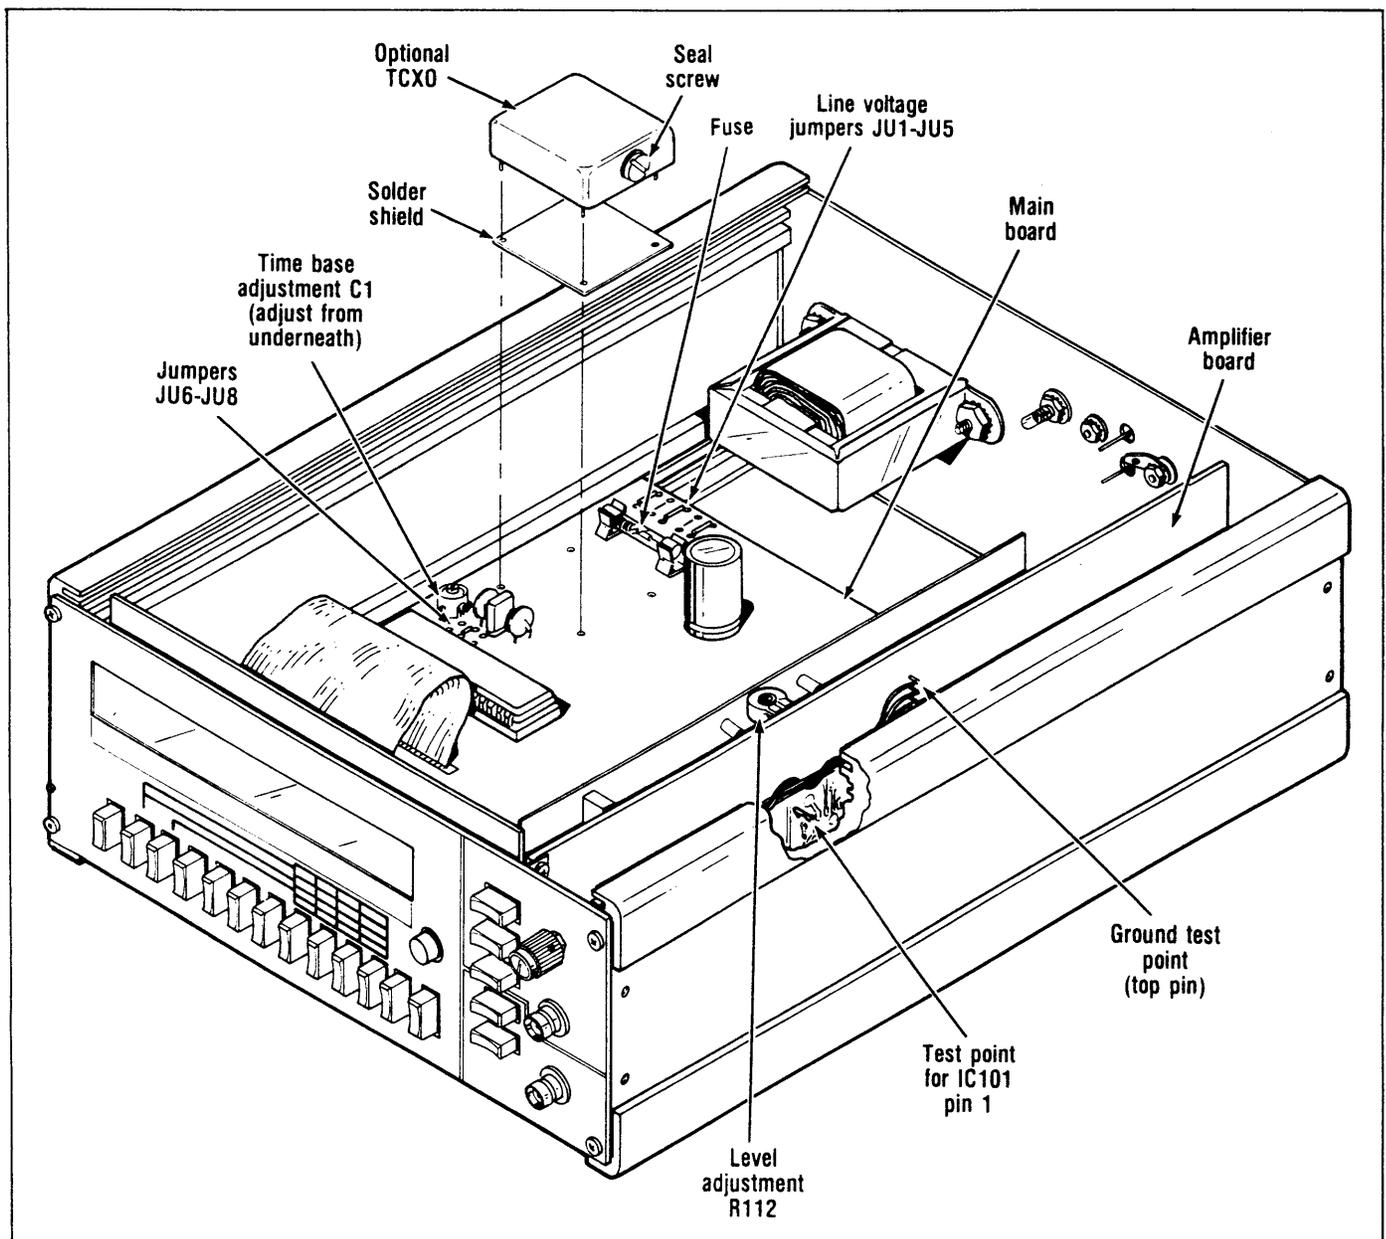

Fig. 12. Interior view showing important elements.
4. The location of the time base adjustment C1 is shown in Fig. 12. Note that C1 is adjusted from underneath the circuit board, through an access hole; the top cover is not removed. The illustration is given to provide a reference for adjustment location.
5. Adjust R112 (see Fig. 12 for location) for minimum reading (0 - 2 mV) on DVM.
Disconnect the unit from ac power, remove the top cover as described previously, and locate jumpers JU1-JU5. These are positioned on the main circuit board, directly in front of the transformer (see Fig. 12). Connect jumpers for each line voltage as follows:
To replace the fuse, disconnect the unit from ac power and remove the top cover as described previously. The fuse is located directly in front of the transformer, on the main circuit board (see Fig. 12).
3. Locate jumpers JU6-JU8 on the main circuit board (refer to Fig. 12).
6. Insert the pins of the TCXO into the appropriate holes of the solder shield and install the TCXO on the main circuit board with the seal screw facing as shown in Fig. 12.